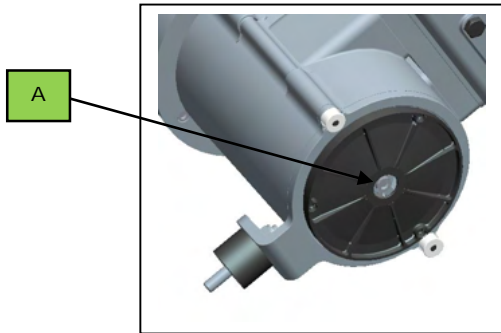

Fig. 21
**Third step:** unscrew the bottom screw in the lower part of the device (Fig.21/A) until the end of the screws working range.